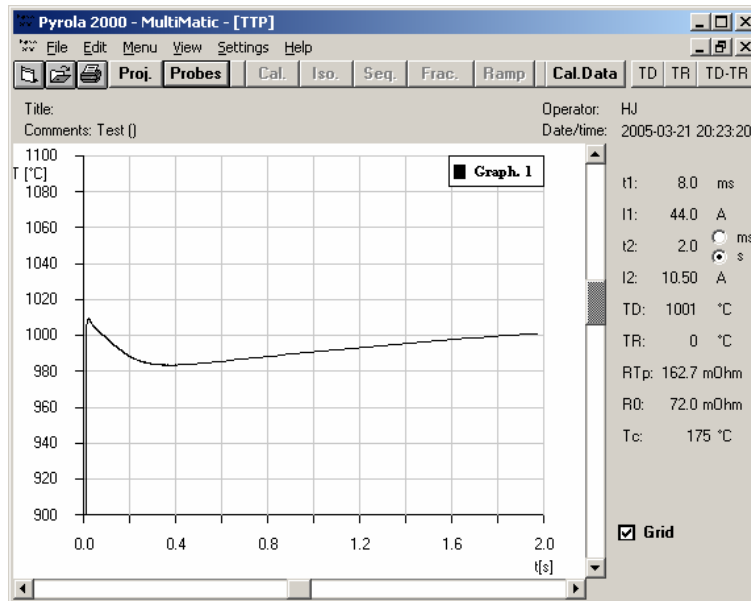

Figure I-3. TTP after the second pyrolysis.
- Increase I1 to 44 A and I2 to 10.50 A and click 'Start Py' again, see Figure I-3. A change of I1 and I2 with 1.5 and 0.5 A, respectively, will change the temperature $\approx 80\text{-}100^\circ\text{C}$. Now the TTP reaches 1010°C initially, but the final temperature is 1001°C. Thus the TTP is still not 'ideal' since it does not reach the same temperature at the end of the pyrolysis as in the beginning, and the temperature is too high. Further adjustments are needed.